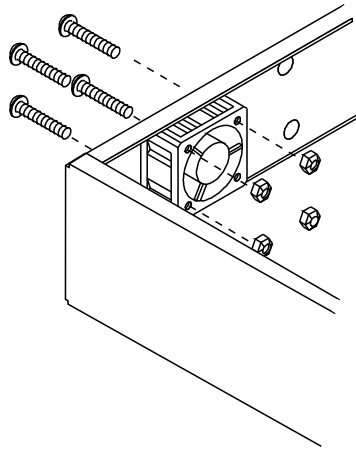

Figure 3-7 Cooling Fan Screws
- 3 Use a #1 Phillips screwdriver and a 1/4-inch wrench or nut driver to remove the four 4-40 x 1-inch panhead machine screws and 1/4-inch self-locking hex nuts that attach the cooling fan to the chassis (see Figure 3-7).